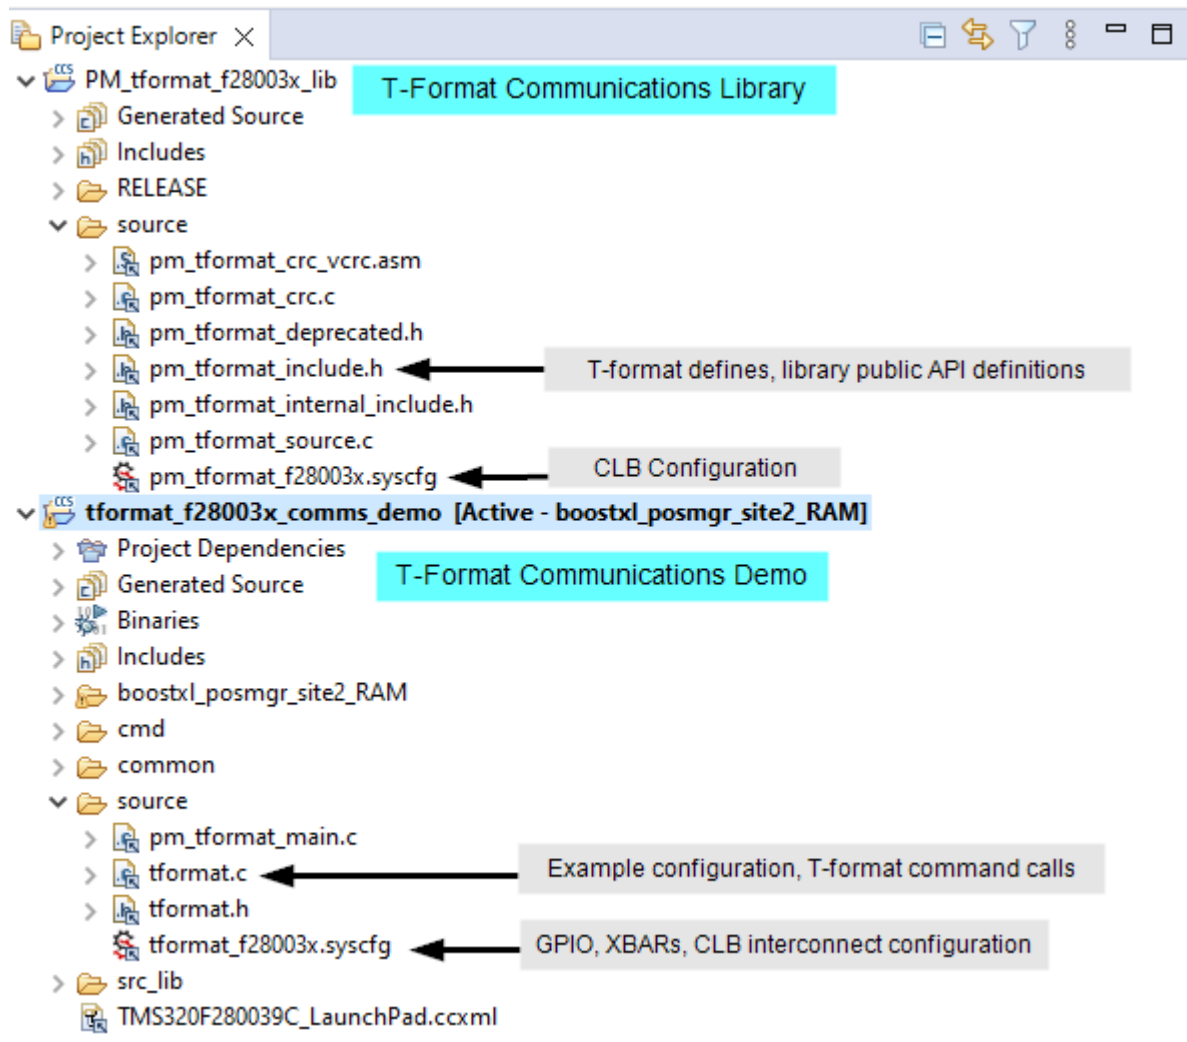

Fig. 3.1: Code Composer Studio Project Explorer Window.
5. In the CCS Project Explorer you should now see the demo and library projects as shown in Fig. 3.1.